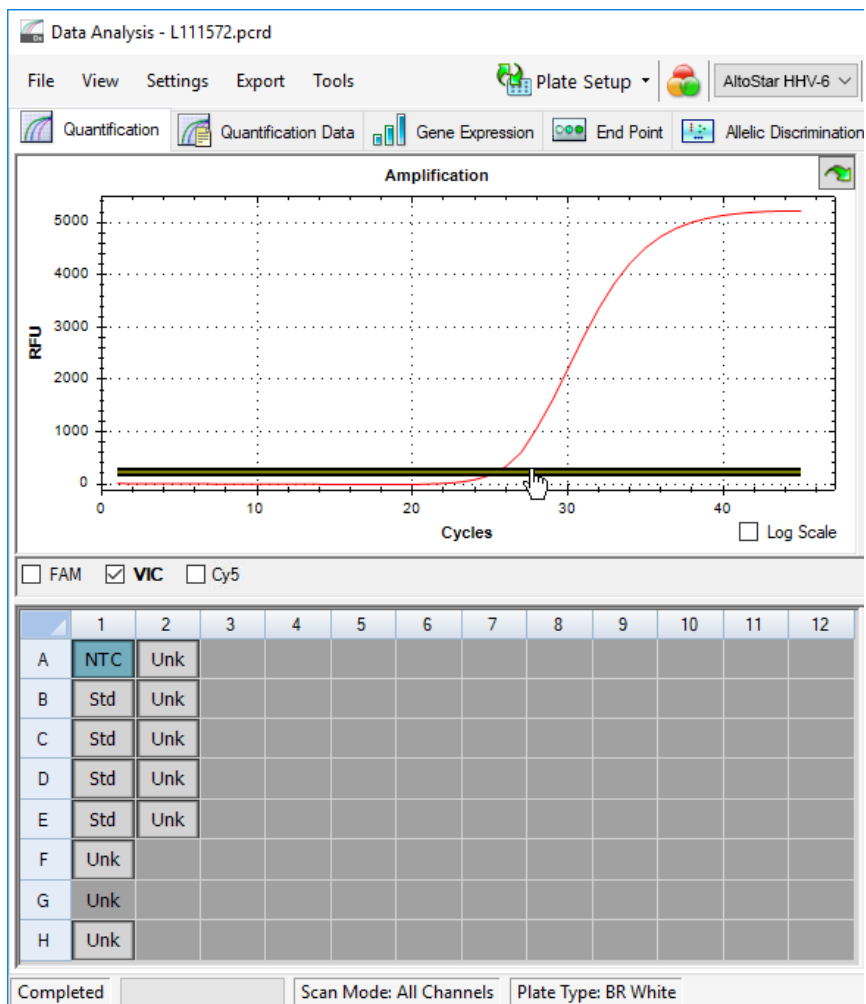

Figure 9: Data Analysis window: setting the VIC™ threshold
2. At the left side of the Data Analysis window tick only the **VIC** checkbox for the detection channel of the IC (see figure 9).
3. Select only the NTC well in the plate view of the Data Analysis window (see figure 9).
4. Drag the threshold into the exponential area of the NTC signal (see figure 9).